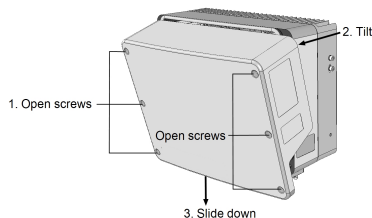

Figure 22: Removing the inverter cover
5. Open the inverter cover (see *Figure 22*).